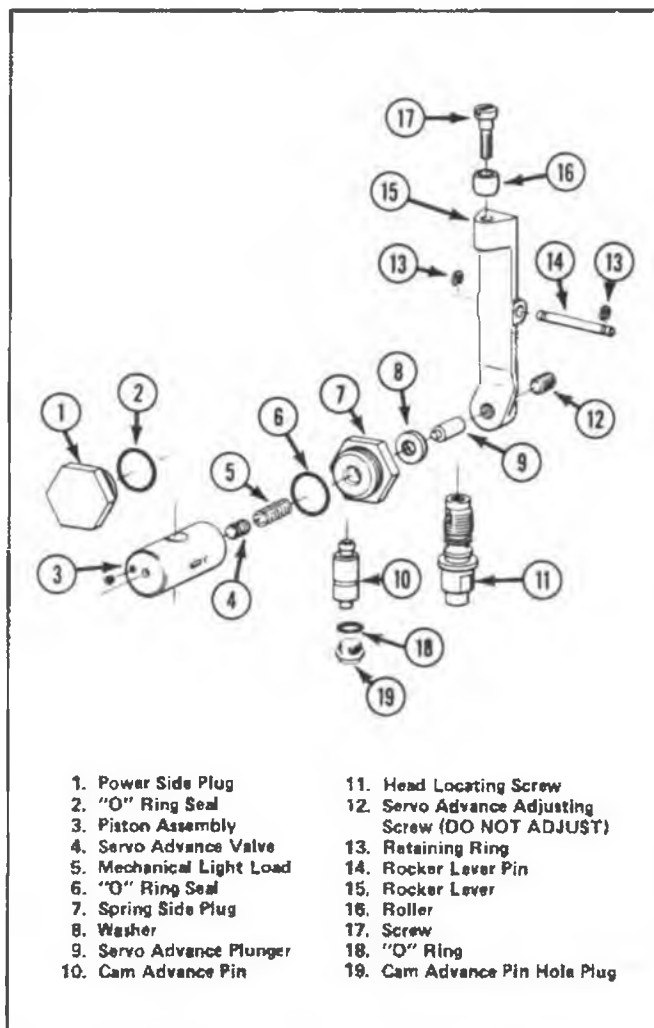

Fig. 2-36 Stanadyne Automatic Advance Group
ADVANCE PIN HOLE PLUG SEAL (Fig. 2-36)
AUTO ADVANCE SEALS (Fig. 2-36)
1. Lube the new seals and reassemble as shown in Figure 2-36.